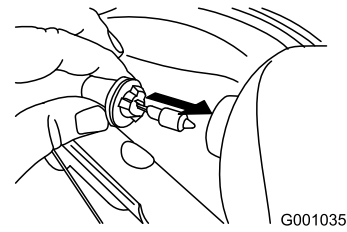

Figure 66
4. Insert a new bulb into the back of the headlight (Figure 66).